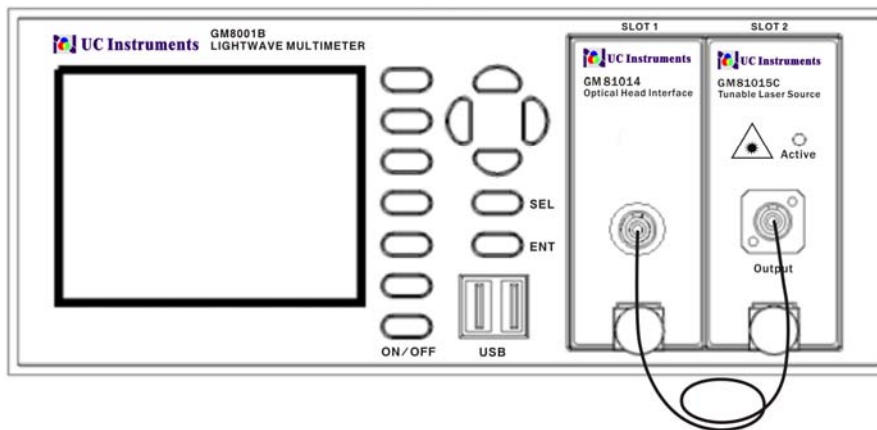

Figure 31- GM8001B Mainframe with fixed laser source, power sensor, and tunable laser module
- 1 Setup the test equipment as shown in Figure 31.